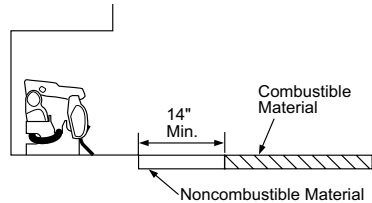

Figure 8 - Minimum Fireplace Clearances If Installed at Floor Level
- A. If installing appliance on the floor level, you must maintain the minimum distance of 14" to combustibles (*see Figure 8*).